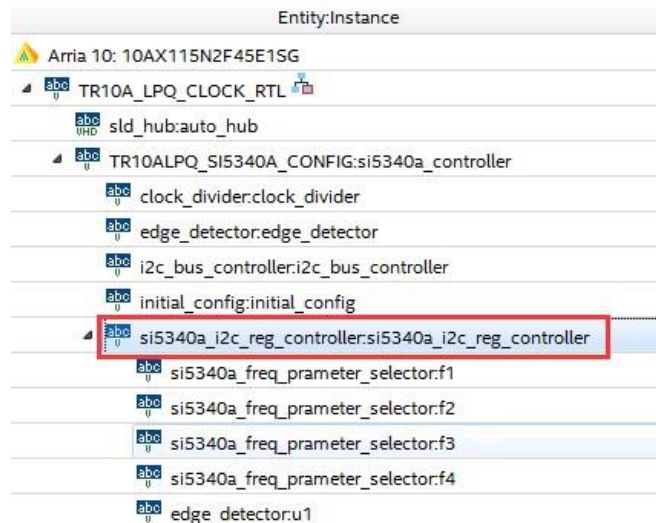
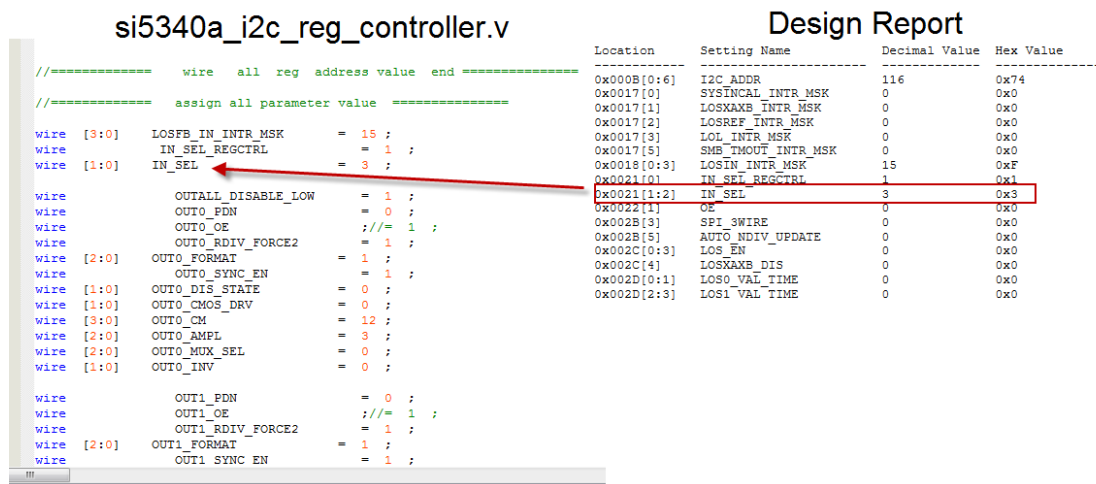

Figure 4-6 Sub-Module file "si5340a_i2c_reg_controller.v"
Figure 4-7 Modify Si5340 Control IP Base on Design Report
- Open Si5340A control IP sub-module “si5340a_i2c_reg_controller.v “ as shown in **Figure 4-6**, refer Design Report parameter to modify sub-module corresponding register value (See **Figure 4-7**).